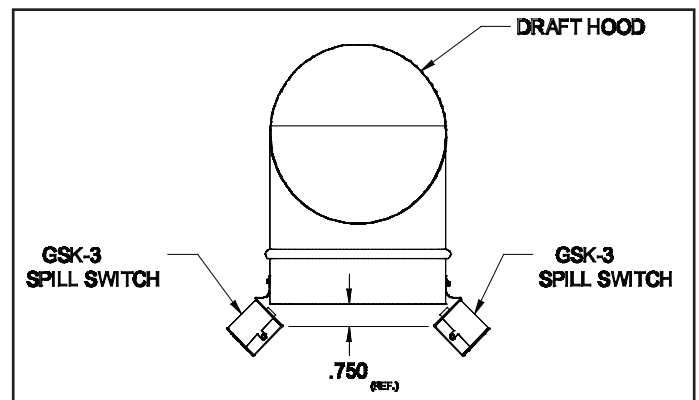

Figure 2
2. The switch should not contact the metal. They should be mounted at least ¾" below the hood opening. (See Figure 2) Mount with supplied sheet metal screw.